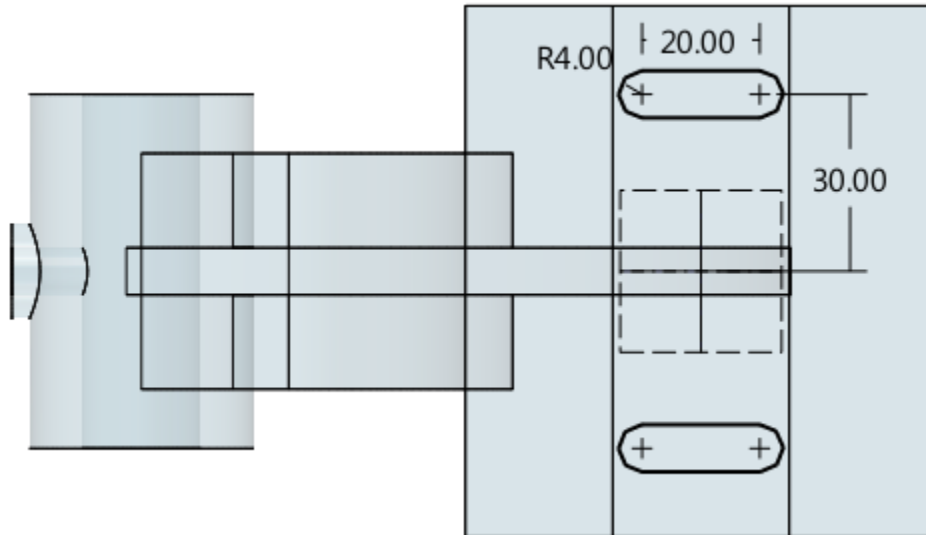

Figure 111 Slot Sketch
STEP 01 Select the XY plane to draw the sketch7. Draw a slot, as shown in the Figure111. The mirror the slot with X axis.